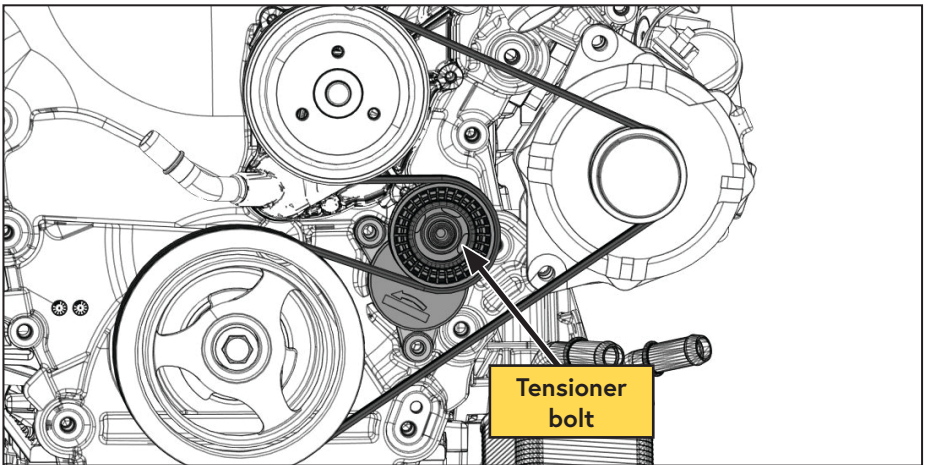

Figure 7 — Remove 6 rib belt
- From underneath the vehicle, use a 15 mm serpentine belt wrench to release the tension and remove the OEM 6 rib belt from the crank pulley. Tuck the belt out the way (Figure 7).